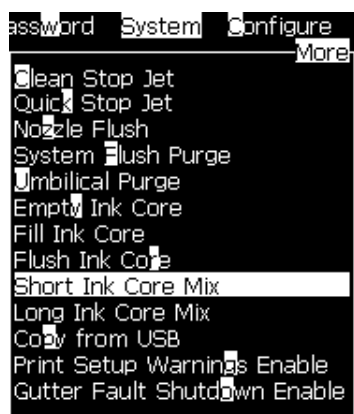

Figure 3-10: Ink Core Mix Sequences
The ink core routinely mixes the ink in the ink core (called 'Ink Mixing') to ensure good ink quality and thus maximum uptime and performance. Ink mixing takes place as scheduled for every 24 hours and can also be manually initiated (see Figure 3-10 on page 3-10).
- 2 Select *Short Ink Core mix* or *Long Ink Core Mix* (Figure 3-10 on page 3-10).